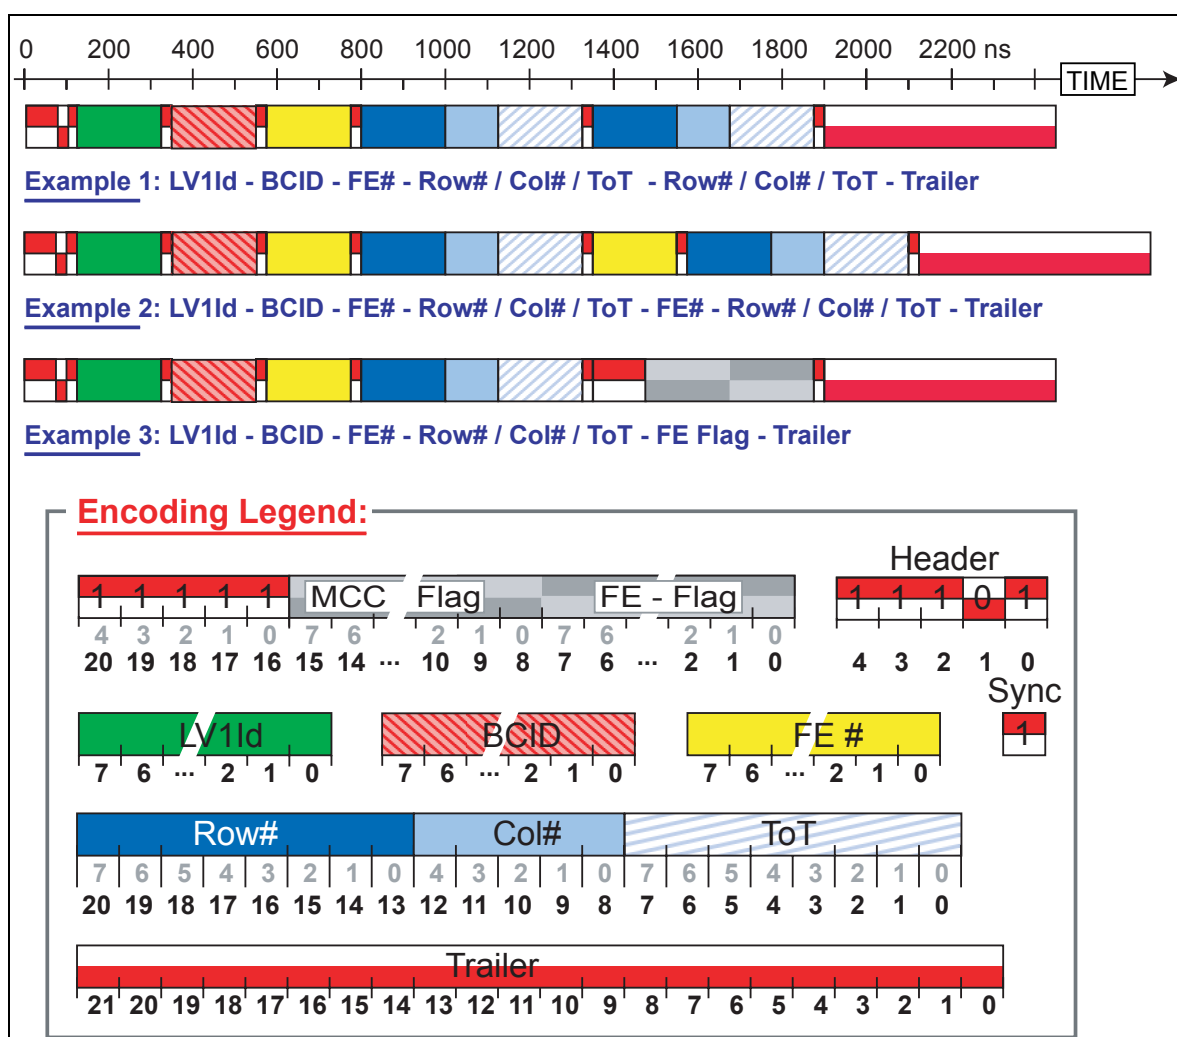

Figure 6-6 Event Data format at the MCC output. Example 3 illustrates the case of an event with a FE-Flag.
- Fig. 6-6** *p. 7* Event Data format at the MCC output. Example 3 illustrates the case of an event with a FE-Flag.
Figure 6-6 is a graphic example of event encoding from the MCC output.